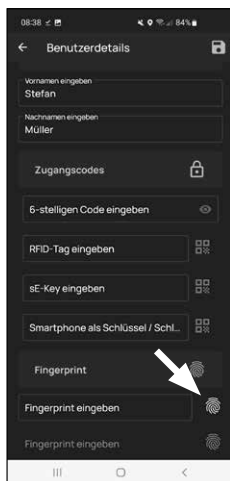

Fig. 5
- This section allows you to register a finger as an opening media. Tap on the fingerprint symbol to the right of the "Enter fingerprint" field (Fig. 5).